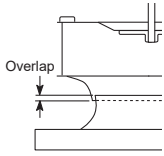

Figure 3
6. Rotate the wheel by hand to ensure that it does not rub and rotates freely. Wheel position is preset and the unit is test run at the factory. Movement may occur during shipment and realignment may be necessary. Refer to Figure 3 and chart for proper overlap dimensions.